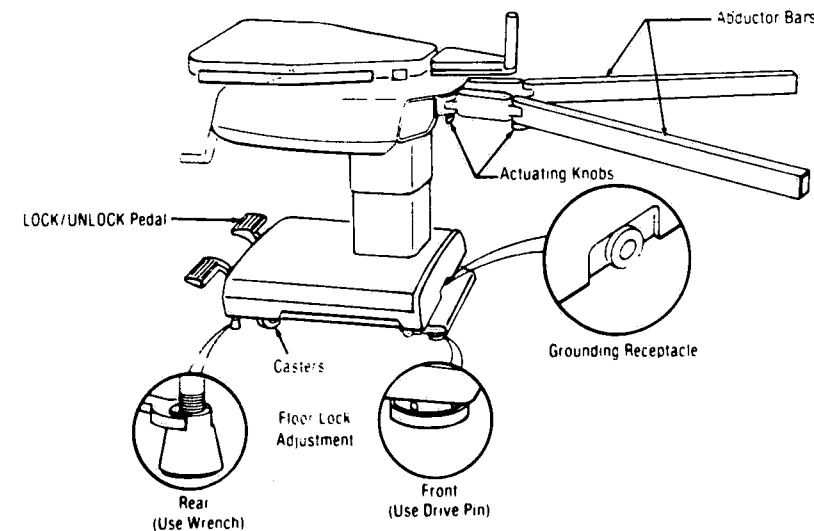

Figure 1. ORTHOGRAPHIC 2 TABLE.
## SECTION 1. INSTALLATION (SEE FIGURE 1)
**NOTE:** Your table is furnished with electrically conductive floor locks. Accumulation of foreign materials on their surfaces, and wear over an extended period, can reduce their conductive properties. Routine testing for conductivity should be performed as needed. A patient grounding receptacle (See Figure 1) is provided. Male connector to ground patient is not furnished by AMSCO.